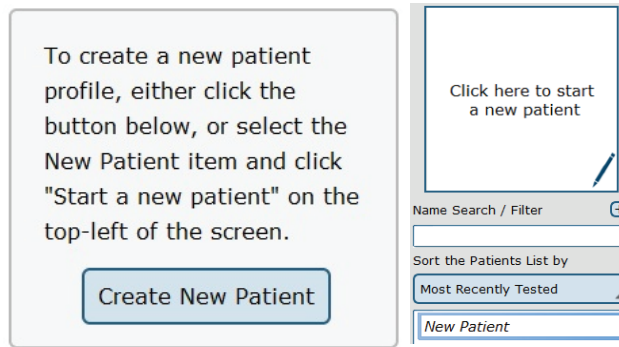

Figure 14: Creating New Patients.
1. Click on the New Patient button in the center of the screen immediately after logging into the system and arriving at the clinician home screen. Alternatively, select New Patient from the patient list and then click on the Click here to Start a New Patient square (located in the upper left corner of the screen). Both options are shown in Figure 14.